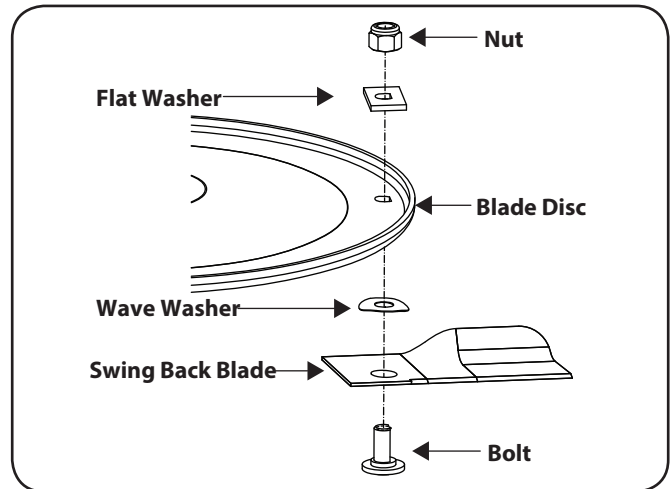

Figure 7-2
- c. Attach the new swing back blades with a new hardware kit for each, following the assembly instructions shown in Figure 7-2.